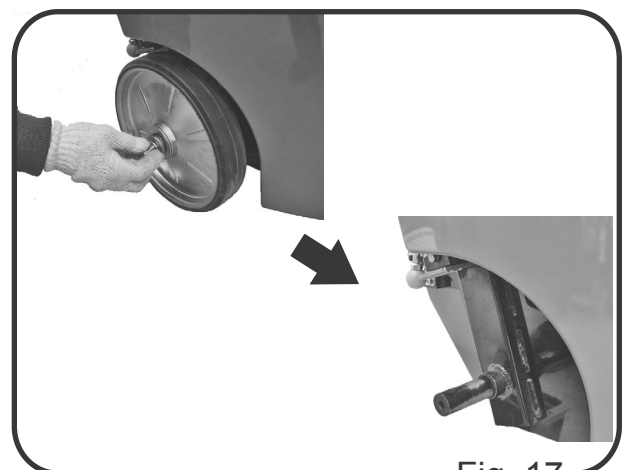

Fig. 17
A. Remove the rear wheel. (Fig. 17)